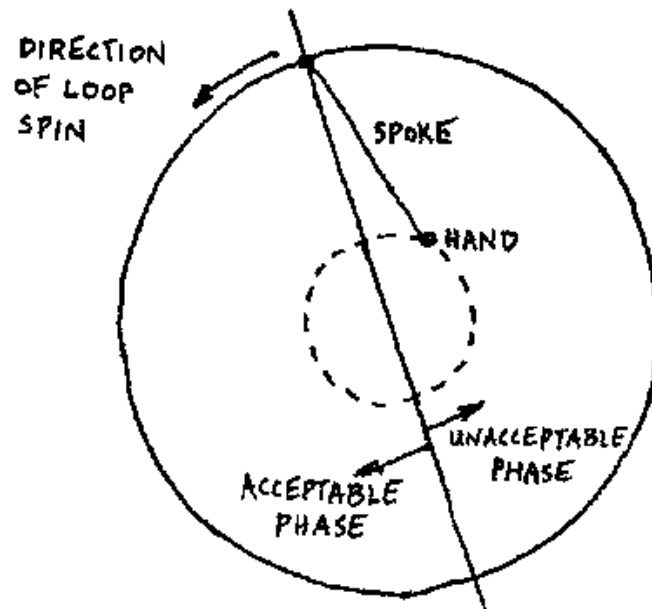

Figure 1.7: Problems with Phase
The problem of hand phase is *very* important. The quarter circle phase advance principle holds true in almost every lasso trick. The most likely result of bad phase is that the diameter of the loop gets smaller and smaller until the circle completely vanishes. The two possibilities that give rise to bad phase are (1), the relative phase of the hand and the honda is constant but the hand is on the wrong half of the small circle thus diminishing the loop speed and (2), the hand-honda phase is continually changing in a way which, on average, diminishes the loop speed (see Figure 1.7). For both cases a decelerating loop speed means a diminishing loop diameter. If you're having problems with the loop becoming smaller and smaller the problem is almost certainly a poor mastery of phase!